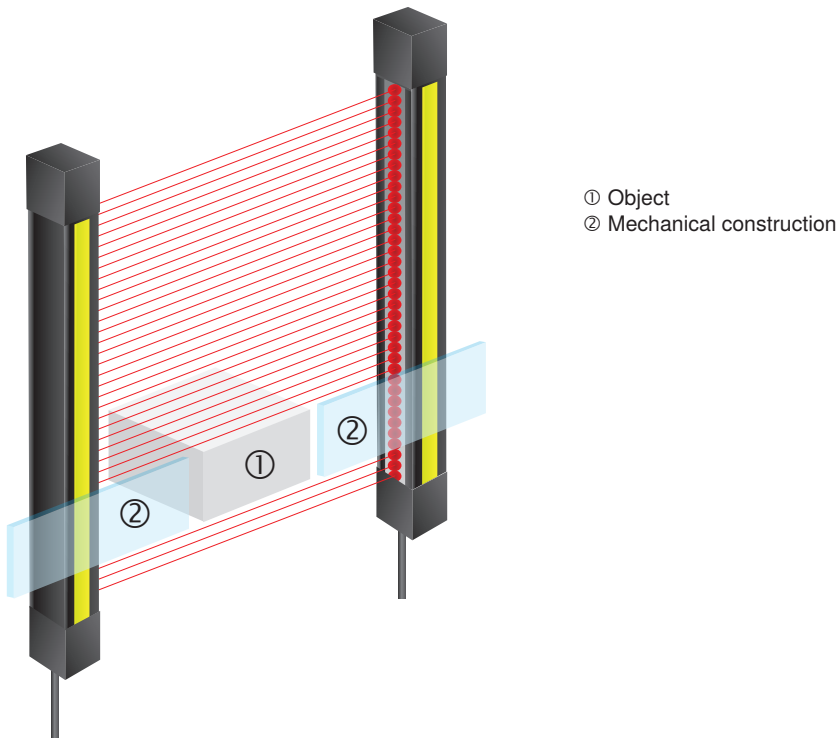

Figure 21 : Additional safeguard for the hidden area
- A hidden area is a "hole in the safety field". The area must therefore be secured by other means, mechanically, for example (see Figure 21).